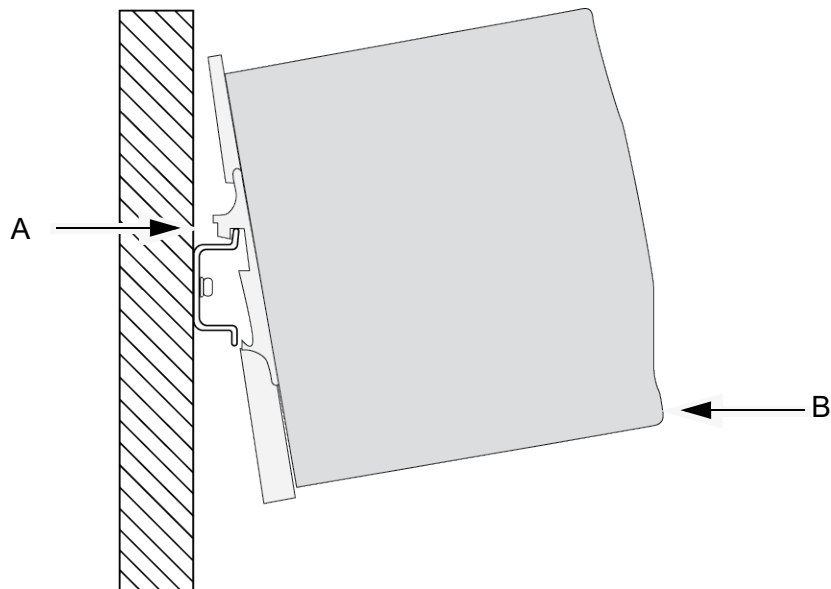

Figure 11. Installing the Power Supply on a DIN Rail
To install the power supply on a DIN rail, place the upper notch on the bracket over the top rail edge (A) and push the lower edge of the power supply (B) until the bracket snaps onto the rail. Refer to Figure 11.